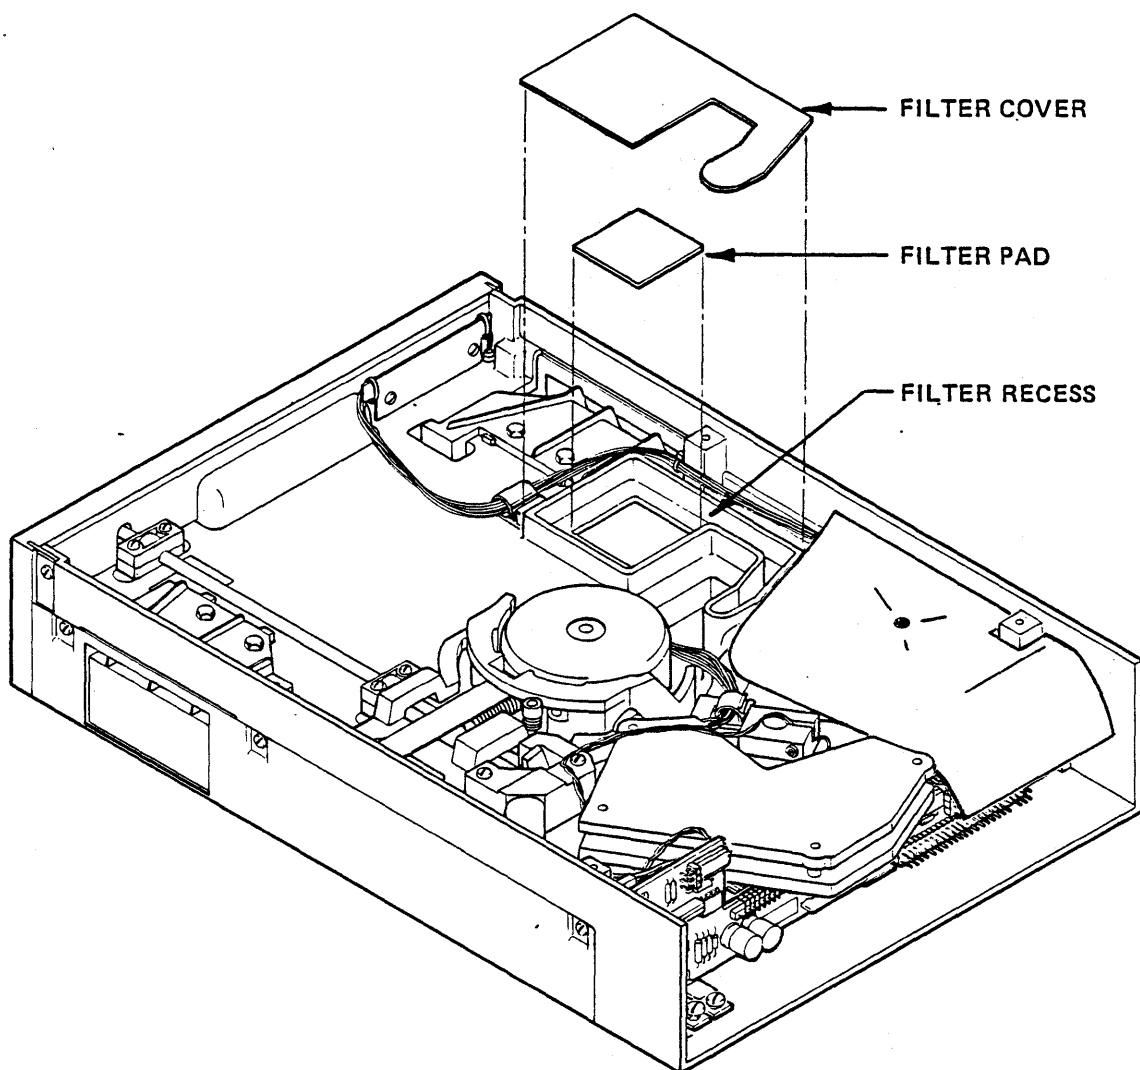

Figure 4-9. Filter Replacement
2. Remove the plastic filter cover by pulling it free of the casting (Figure 4-9).